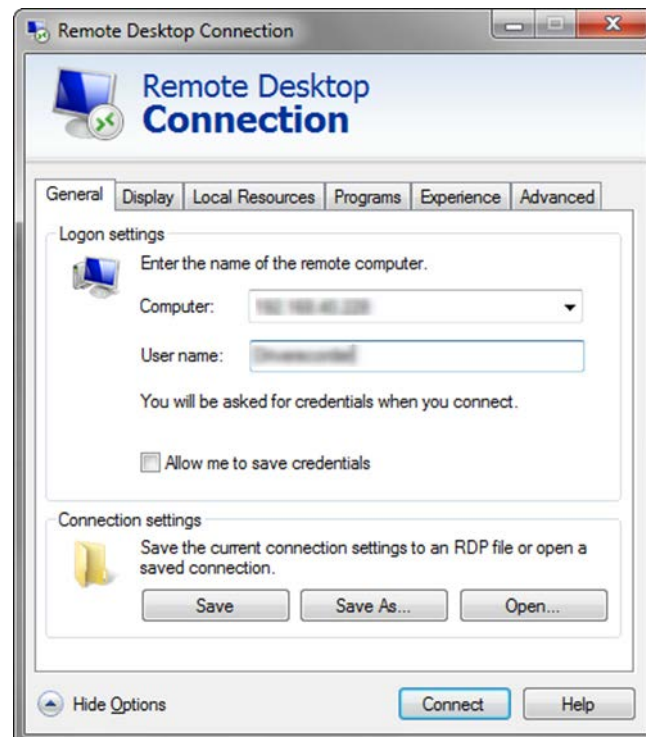

Fig. 1
- On your PC, from the **Start** Menu launch **Remote Desktop Connection** tool (Fig.1)